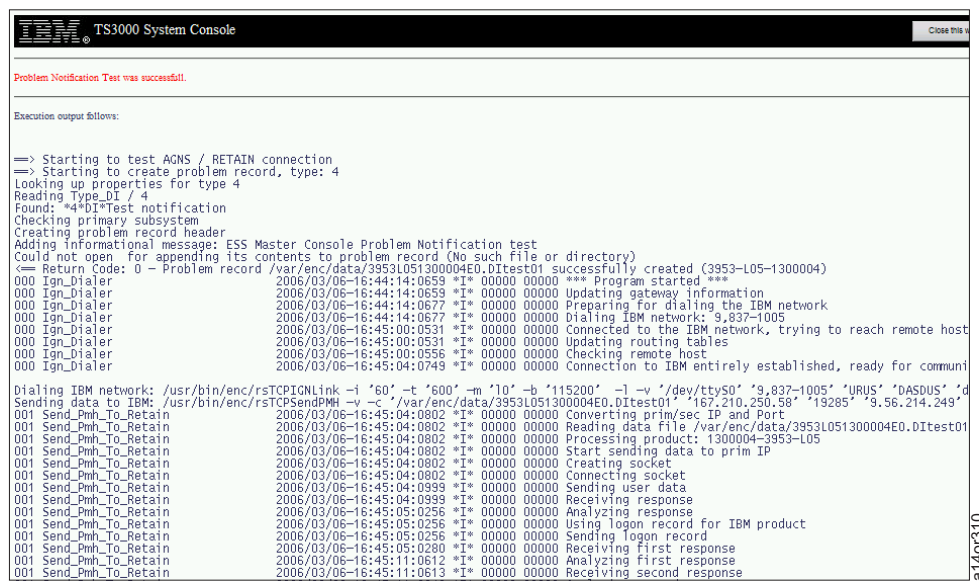

Figure 131. Test RETAIN Connection Results Screen - During Installation
7. Click **Test Problem Notification** in the right panel to test the PMR path, or click **Test Data Upload** to test the data upload path. Details of the results of the test appear in the screen shown in Figure 131. If you changed a telephone number, click **Refresh** to refresh the display, then again perform Step 7.